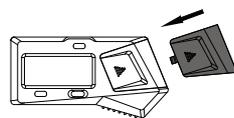

fig.3
- Close the battery cover (fig.3)